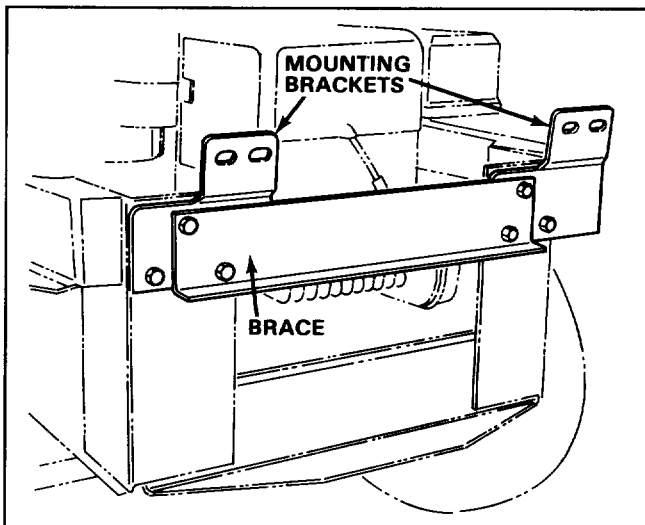

Figure 1
1. Secure (2) mounting brackets and brace to rear of HMR frame with (6) capscrews (7/8" lg.) and locknuts as shown in fig. 1.